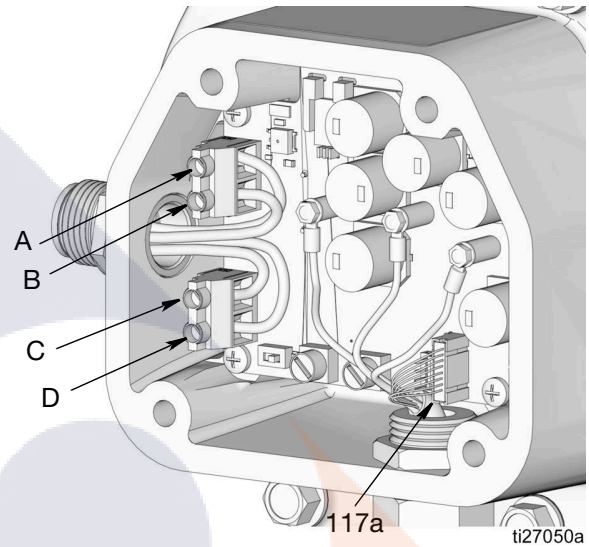

FIG. 67
7. Disconnect sensor cable (117a) from motor control board (FIG. 67).
8. Disconnect source to power input (A and B) and pump control connections (C and D) (See FIG. 67 and Control Panel, page 13).
2. Connect source to power input (A and B) and pump signal connections (C and D) (FIG. 67 and A,B,C,D, page 13). Torque to 5.5 - 7 in. lbs (0.62 - 0.79 N.m).